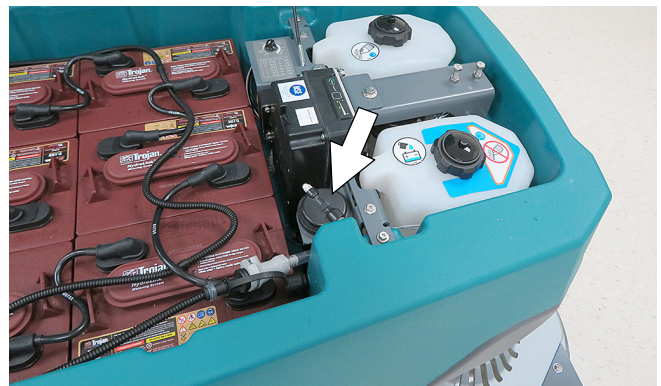

FIG. 150
- Lift the recovery tank to access the ec-H₂O water conditioning cartridge (Figure 150). Drain recovery tank before lifting tank.